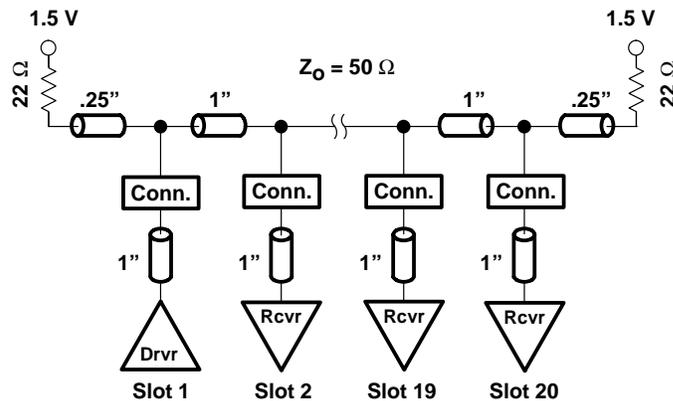

Figure 3. Typical Backplane Physical Representation
Both FB+ and GTLP devices are commonly used in multiple-bit, multipoint double-terminated parallel backplanes (see Figure 3). The device turns on to pull the signal low and turns off to allow the termination resistors to pull the signal high, up to the termination voltage. The benefit of this open-collector/open-drain technology is that the output either is sinking current or is in the high-impedance state (3-state), but never sources current. This reduces the power consumption over typical Thevenin or ac terminations. Other benefits include the ability to pick a termination-resistor value that matches the loaded backplane impedance (Z), ensuring incident-wave switching/optimum signal integrity, and no destructive bus-contention issues if multiple devices are on at the same time, which also facilitates a wired-OR arrangement. The loaded backplane impedance, Z , always is lower than the natural bus line impedance (Z_0) and varies from system to system, depending on stub length, slot pitch, device C_{iO} , and type of connectors. Surface-mount ceramic-bypass capacitors (0.82 nF) should be connected between V_{TT} and GND on every fourth data bit, to minimize current fluctuations.